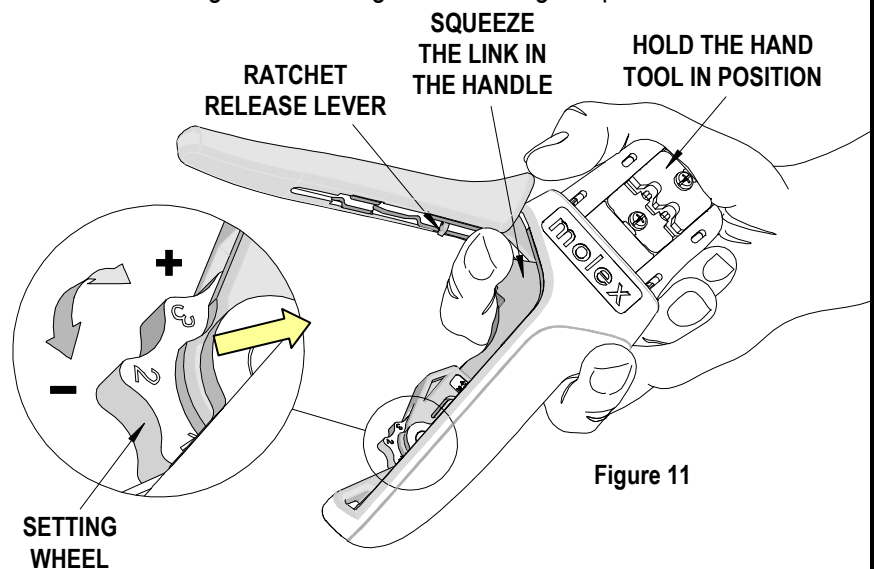

Figure 11
1. Hold the hand tool in the palm of your hand as shown in Figure 11. Using the index finger squeeze the link towards the top of the hand tool frame. This will release the preload adjustment wheel.
2. Rotate the setting wheel counter-clockwise (CCW) to increase handle force. The numbers will display higher. To decrease handle force rotate the setting wheel clockwise (CW).